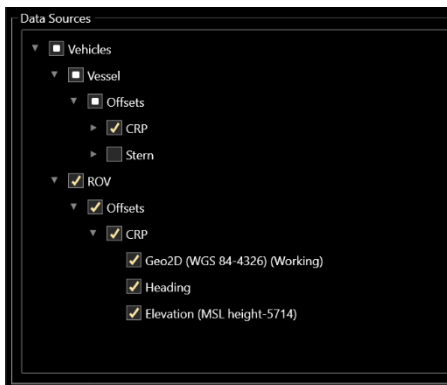
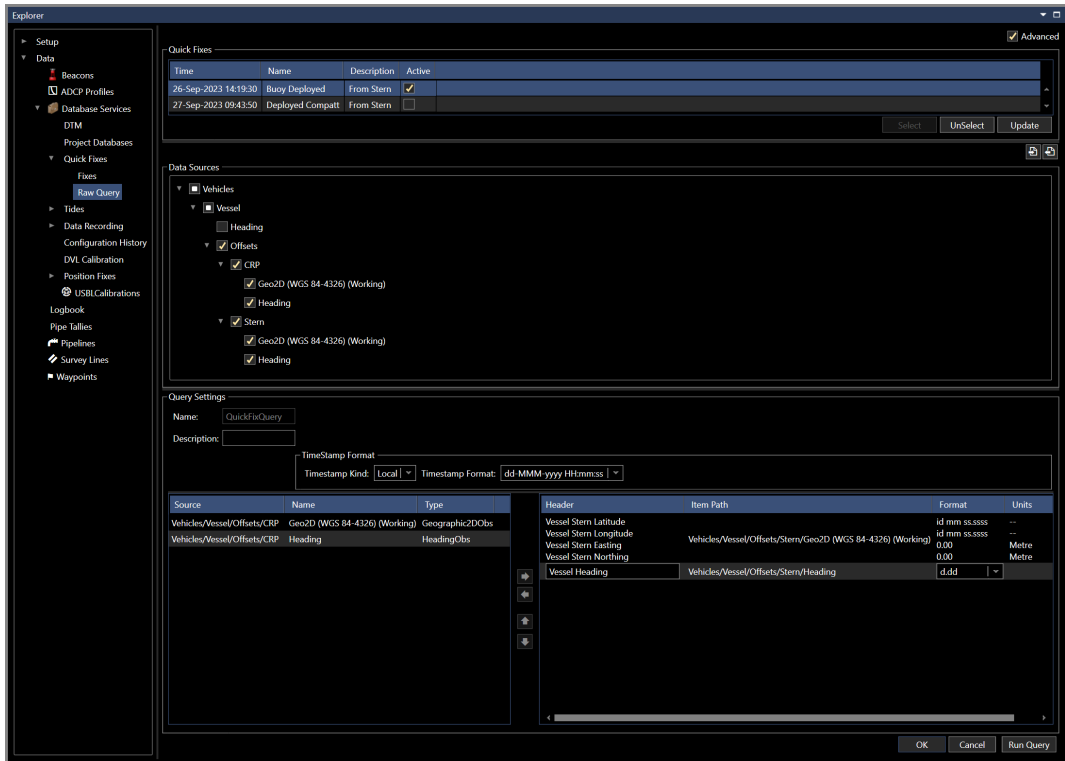

FIGURE 14-52 QUICK FIXES - RAW QUERY – ADVANCED – DATA SOURCES PANEL
FIGURE 14-54 QUICK FIXES – RAW QUERY – ADVANCED - QUERY SETTINGS – ITEMS TO BE QUERIED
- The **Data** grid (see Figure 14-53) contains in the left panel the data sources selected in the **Data Source** panel (see Figure 14-52) that are available to be queried. The right panel shows the selected items to be queried (see Figure 14-54)